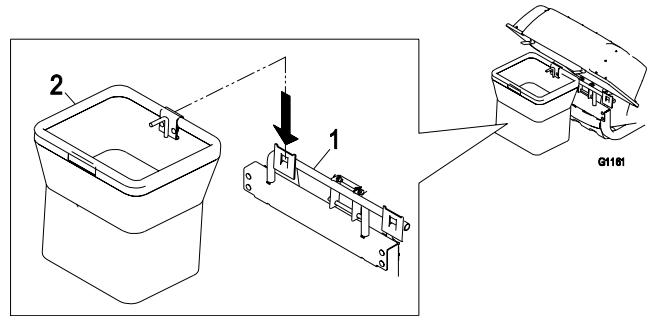

Figure 13
4. Install the bags by sliding the bag frame hooks onto the retaining brackets (Figure 13).
4. Open the hood and remove the two bags from the bag frame hooks (Figure 13).